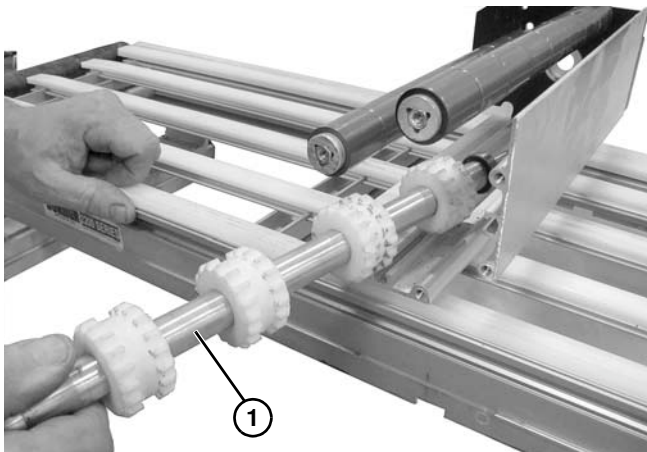

Figure 58
9. Remove drive shaft (**Figure 58, item 1**).